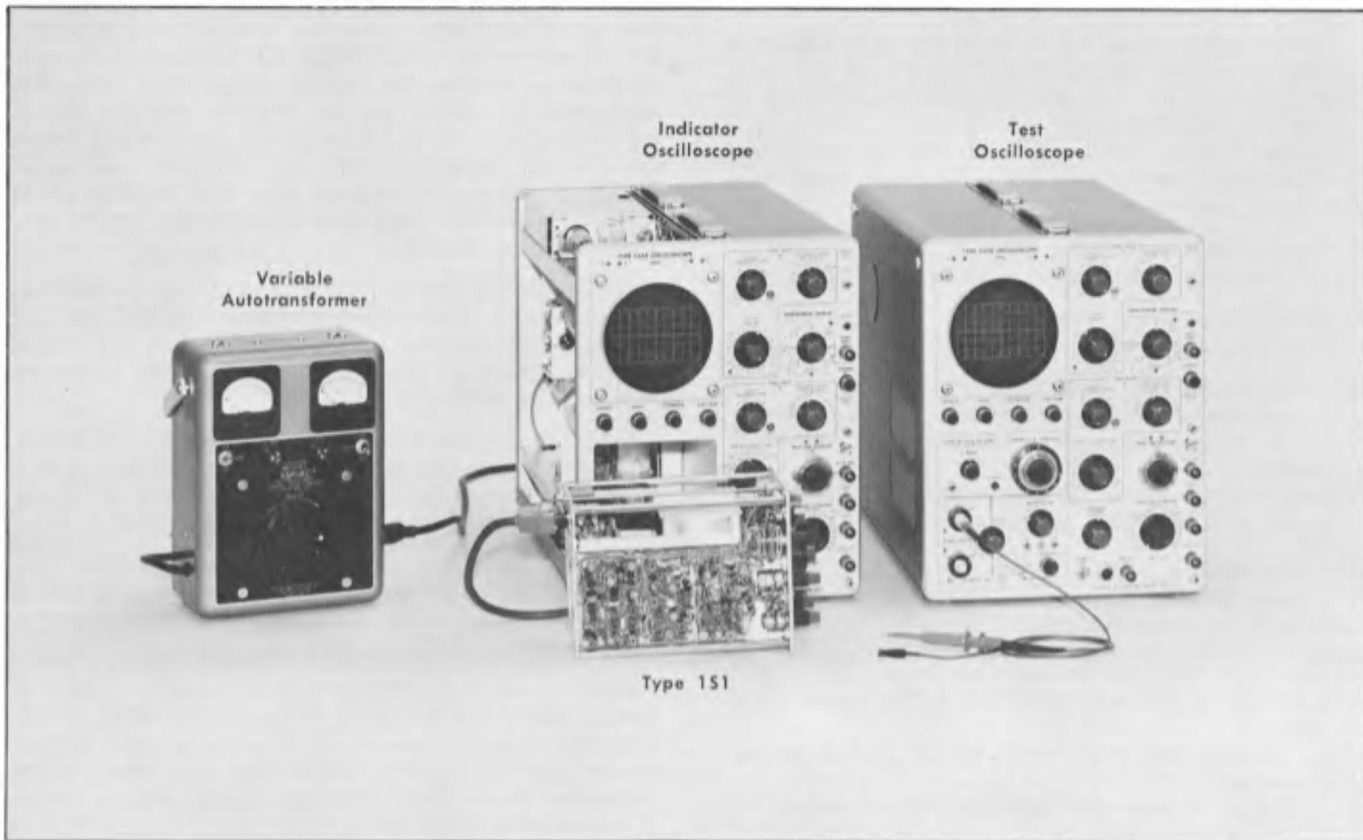

Fig. 5-3. Initial test setup for steps 1 through 3.
4. Connect the interconnecting plug of the Type 1S1 to the indicator oscilloscope through the 30-inch flexible extension cable (see Fig. 5-3).
- Initial test equipment setup is shown in Fig. 5-3.